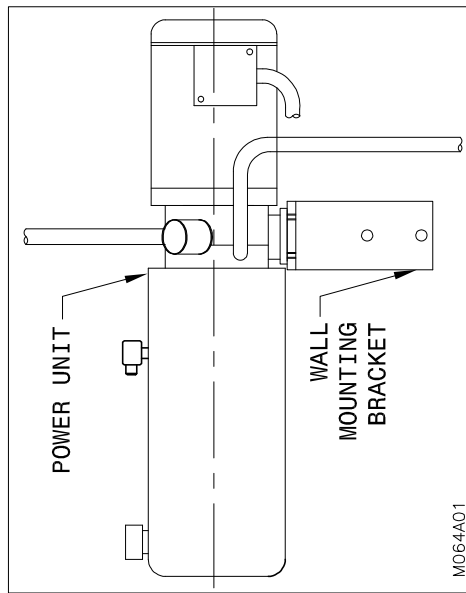
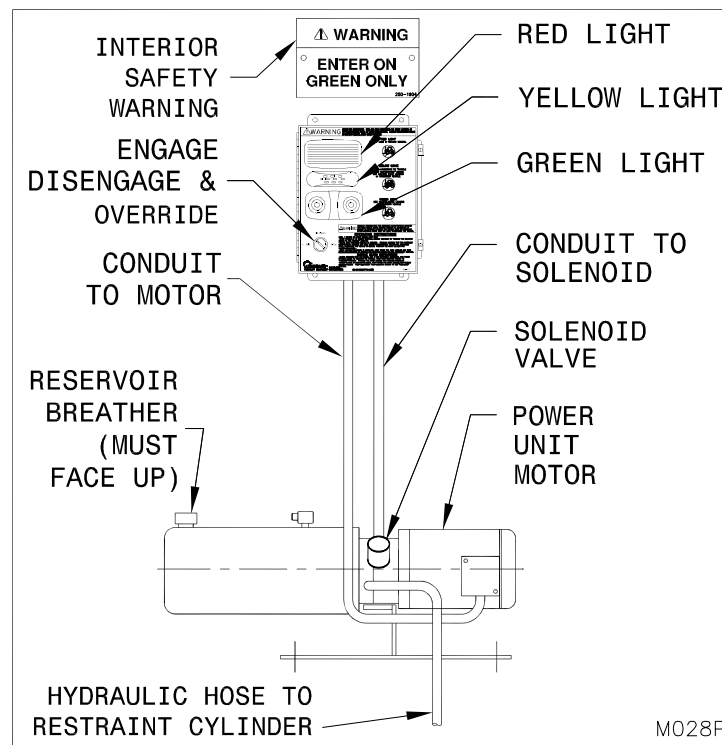

Figure 9: Wall Mounted Power Unit
Figure 10: Power Unit and Control Panel
1. ☐ Mount the power unit horizontally with the reservoir breather facing up (See “Figure 10: Power Unit and Control Panel” on page 12). When mounting the power unit on a wall, position the power unit above the wall bracket keeping the ½” wall mount holes below the power unit. This ensures easier access to all the wall bracket holes when mounting the power unit (See “Figure 9: Wall Mounted Power Unit” on page 12). Note: The hydraulic power unit and the control panel are important components of the equipment. It is important that they be installed in a location that is free from dirt, debris and splashing and / or wash down. The location should also be free from the likelihood of impacts. Each application has different conditions and design features. Evaluation of the specific site conditions and parameters in conjunction with common sense should be used to determine the appropriate hydraulic power unit and control panel installation location.